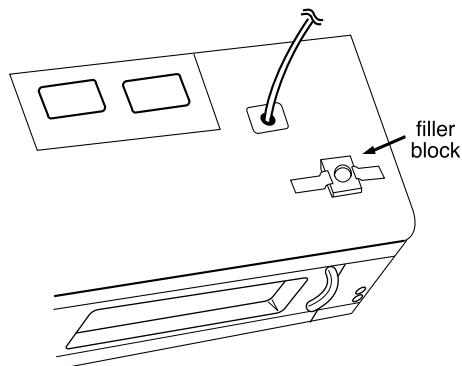

Figure 25
- Align filler blocks over the two openings in the top of the microwave oven cabinet and attach to cabinet with masking tape. See Figure 25.